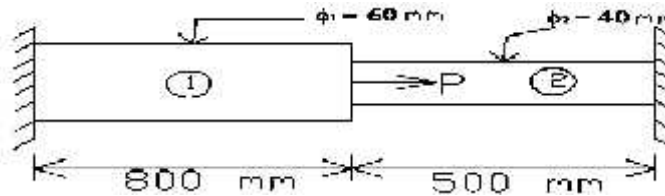

Fig.1
1. a) Explain Stress- strain relations and develop the Strain Displacement (D) matrix for plane stress and plane strain conditions. 7M
- c. Reactions at the supports, For the member shown in the Fig.1 Given that, $E_1 = 2 \times 10^5 \text{ Mpa}$, $E_2 = 1 \times 10^5 \text{ MPa}$ and $P = 1000 \text{ N}$